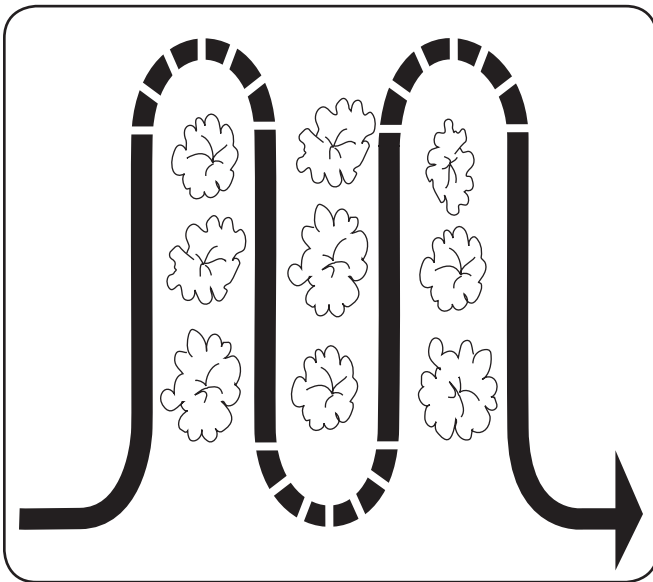

Figure 5-4
- When cultivating (breaking up surface soil around plants to destroy weeds, see Fig. 5-4), Adjust the tines to dig only 1" to 2" deep. Using shallow tilling depths helps prevent injury to the plants whose roots often grow close to the surface. If needed, lift up on the handlebars slightly to prevent the tines from digging too deeply. (Cultivating on a regular basis not only eliminates weeds, it also loosens and aerates the soil for better moisture absorption and faster plant growth.) Watering the garden area a few days prior to tilling will make tilling easier, as will letting the newly worked soil set for a day or two before making a final, deep tilling pass.